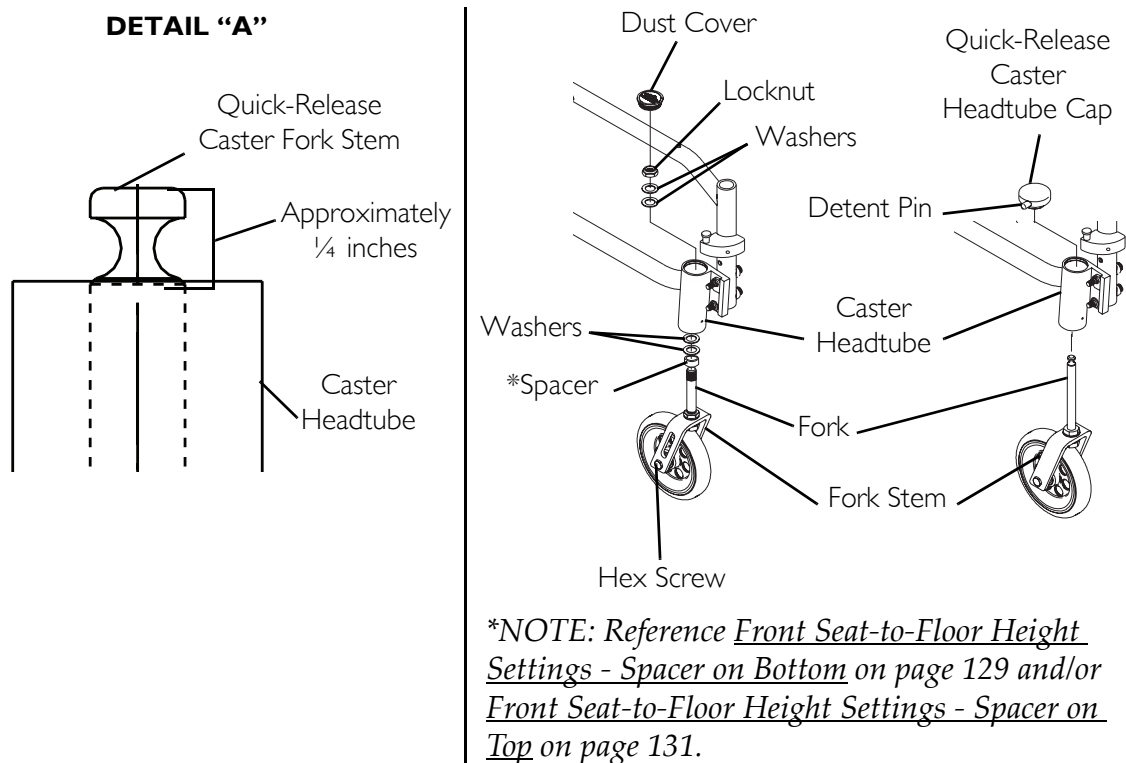

FIGURE 9.5 Installing Quick-Release Casters
Pull on quick-release casters each time BEFORE using the wheelchair to make sure they are securely locked onto the wheelchair frame. There are several configurations of the quick release caster. If caster fork stem does NOT look like the drawing in FIGURE 9.5 when installed, DO NOT USE. Contact Customer Service at 1-(800)-333-6900.
NOTE: For this procedure, refer to FIGURE 9.5 on page 100.
5. Install the quick release caster fork through the head tube of the wheelchair making sure the fork stem is approximately ¼-inch above the caster head tube. Refer to Detail "A" of FIGURE 9.5.